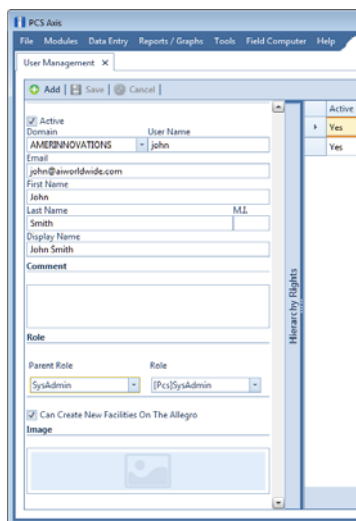

Figure 3-25. Role List
- 3 Complete the following steps in the *Role* group box on the left side of the window (Figure 3-25):